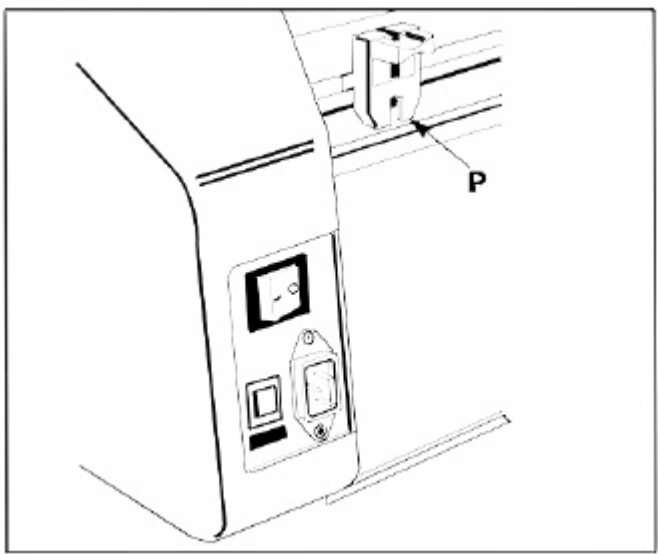

Fig. 7
P. REAR SLITTER: Used to cut off the laminated web, (Figure 7).